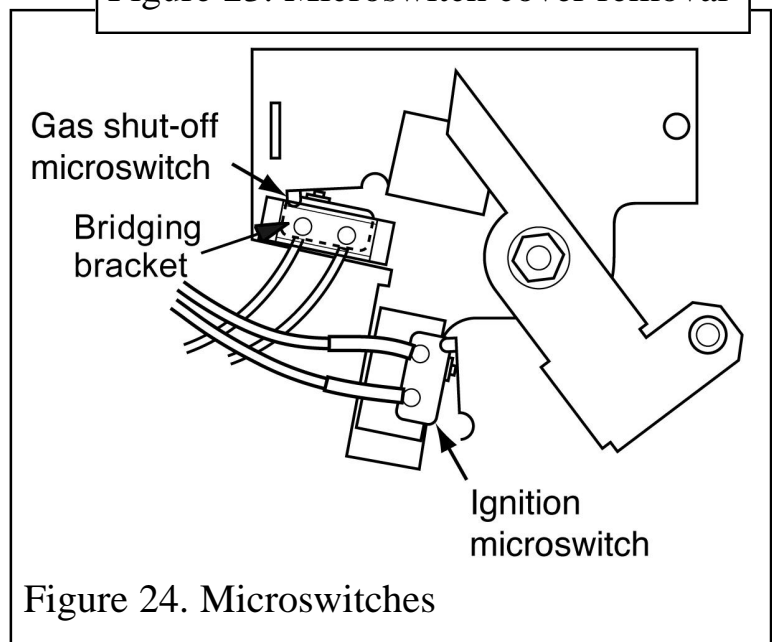

Figure 24. Microswitches
3. Disconnect the leads from the ignition microswitch (The lower of the two microswitches - See figure 24).
4. Detach the bridging bracket, microswitch assembly by removing two screws (See figure 24).